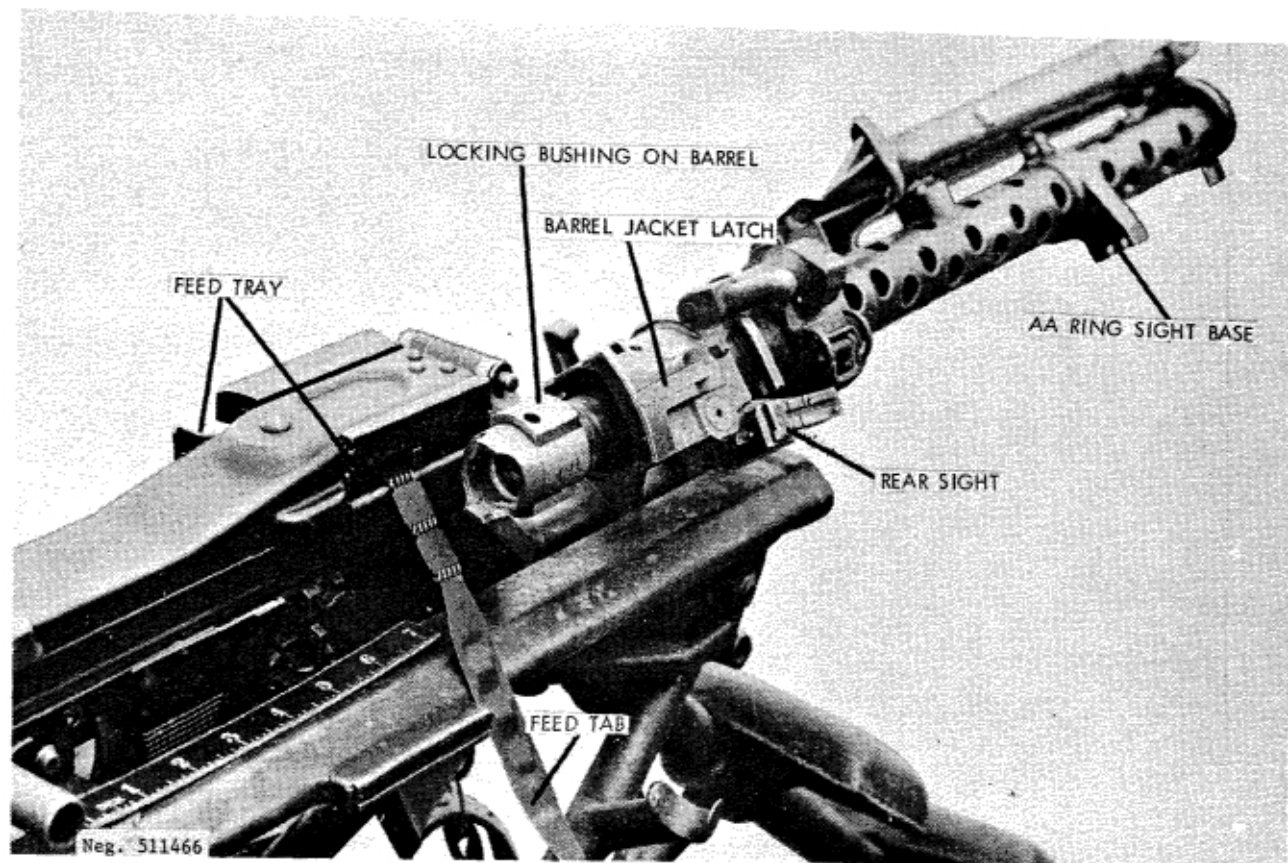

Figure 167. MG34 barrel change.
g. The high cyclic rate of fire causes the MG34 barrels to heat very rapidly, and provision is made for quickly changing the hot barrel for a cool one. To change barrels, pull the operating handle to the rear and, using gloves, press the barrel jacket latch (beneath the rear sight) (fig 167) and rotate the receiver counterclockwise in relation to the barrel jacket. Lower the butt, and the barrel will slide out of the jacket. CAUTION: It is hot—use gloves to handle it. Insert a cool barrel in the jacket, insuring that it is fully forward in the jacket. Swing the receiver over to the left, push the operating handle forward, and recommence firing.